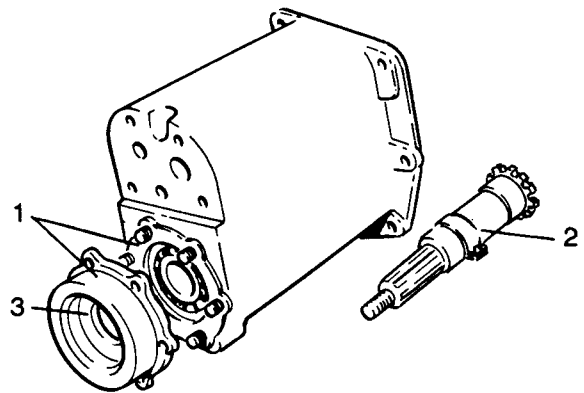

Fig H1.97
- (7) Refer to Fig H1.97. Remove the oil seal housing (1) and gasket.
- (8) Remove the output shaft (2).
- (9) Remove the oil seal (3).